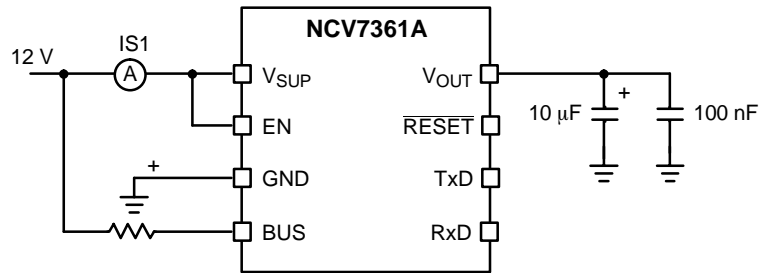

Figure 6. Test Circuit for Supply Current  $I_{Sn1}$
4. See Figure 6 for test setup.